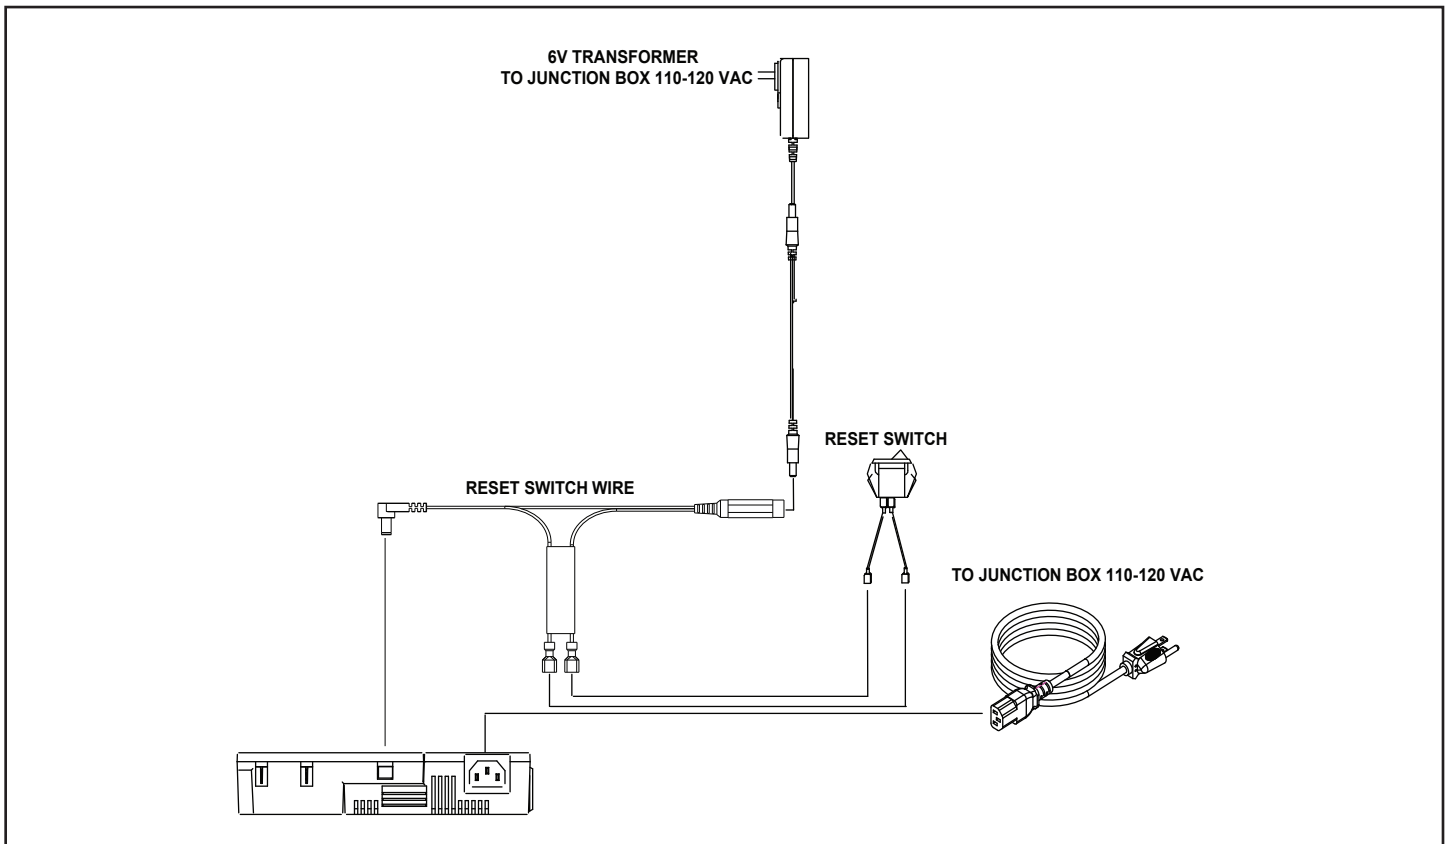
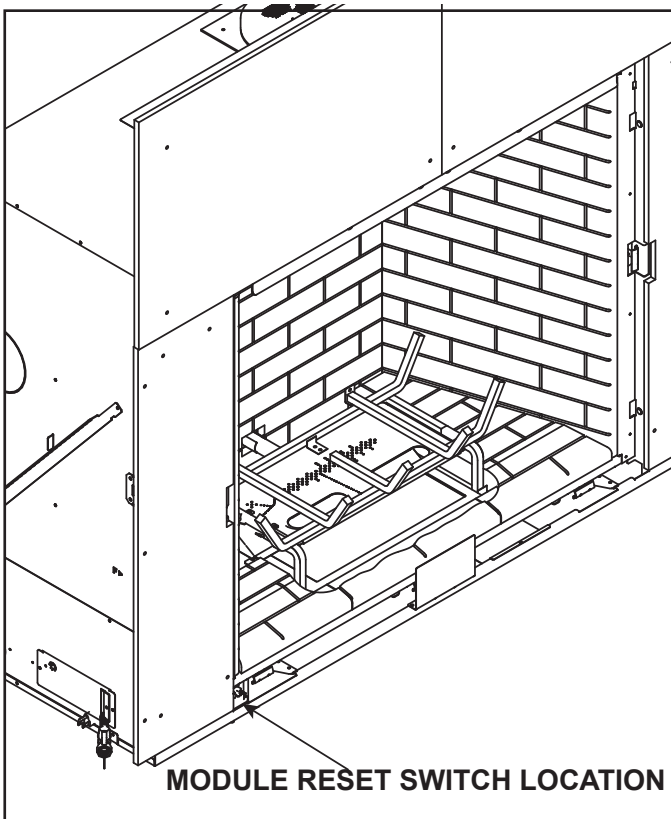

Figure 5. Reset Switch Wiring
Figure 6. Reset Switch Location
21. Refer to Figure 5 and Figure 6 to locate 6V transformer and control module in appliance control cavity.
22. Unplug 6V transformer from control module and install reset switch wire as shown in Figure 6.
23. Install reset switch onto valve plate in location shown in Figure 6.